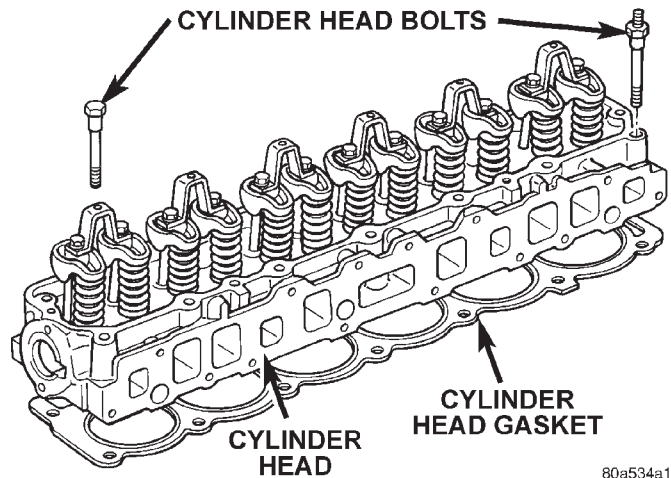

Fig. 37 Engine Cylinder Head Assembly
- (6) Remove the push rods. **Retain the push rods, bridges, pivots and rocker arms in the same order as removed.**
- (7) Loosen the accessory drive belt at the power steering pump. (Refer to Group 7, Cooling System for the correct procedure). Slip the belt off of the power steering pulley.
- (8) Remove the air conditioning compressor mounting bolts and secure the compressor to the side.
- (9) Remove the power steering pump and bracket from the intake manifold and water pump. Set the pump and bracket aside. **DO NOT** disconnect the hoses.
- (10) Perform the Fuel System Pressure Release procedure. (Refer to Group 14, Fuel System)
- (11) Disconnect the fuel supply line at the fuel rail. (Refer to Group 14, Quick-Connect Fittings for the correct procedures)
- (12) Remove the intake and engine exhaust manifolds from the engine cylinder head. (Refer to Group 11, Exhaust System and Intake Manifold for the proper procedures)
- (13) Disconnect the coil rail electrical connectors and remove the coil rail.
- (14) Remove spark plugs.
- (15) Disconnect the temperature sending unit wire connector.
- (16) Remove the engine cylinder head bolts. Bolt No.14 cannot be removed until the head is moved forward (Fig. 37). Pull bolt No.14 out as far as it will go and then suspend the bolt in this position (tape around the bolt).
- (17) Remove the engine cylinder head and gasket (Fig. 37).
- (18) If this was the first time the bolts were removed, put a paint dab on the top of the bolt. If the bolts have a paint dab on the top of the bolt or it isn't known if they were used before, discard the bolts.
- (19) Stuff clean lint free shop towels into the cylinder bores.